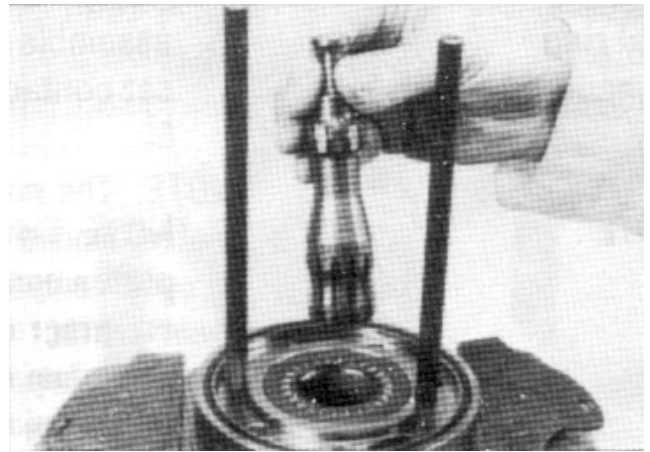

Figure 47
10. Install drive link (13) with the long splined end down into the coupling shaft (11). Engage the drive link splines so they mesh with the coupling shaft splines (Fig. 47).
11. Assemble wear plate (18) over the drive link (13) and alignment studs onto the housing (3).
12. Apply a small amount of clean grease to a new seal ring (5) and assemble it into the seal ring groove on the wear plate side of the stator (21).